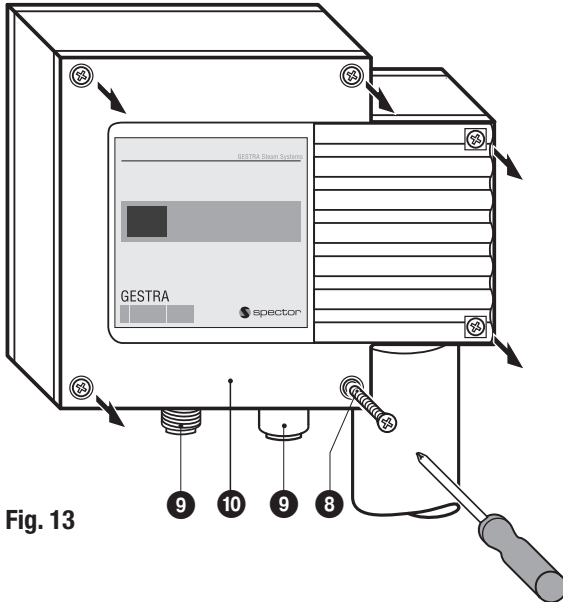

Fig. 13
1. Unscrew screws **8** and remove cover **10**. **Fig. 13**